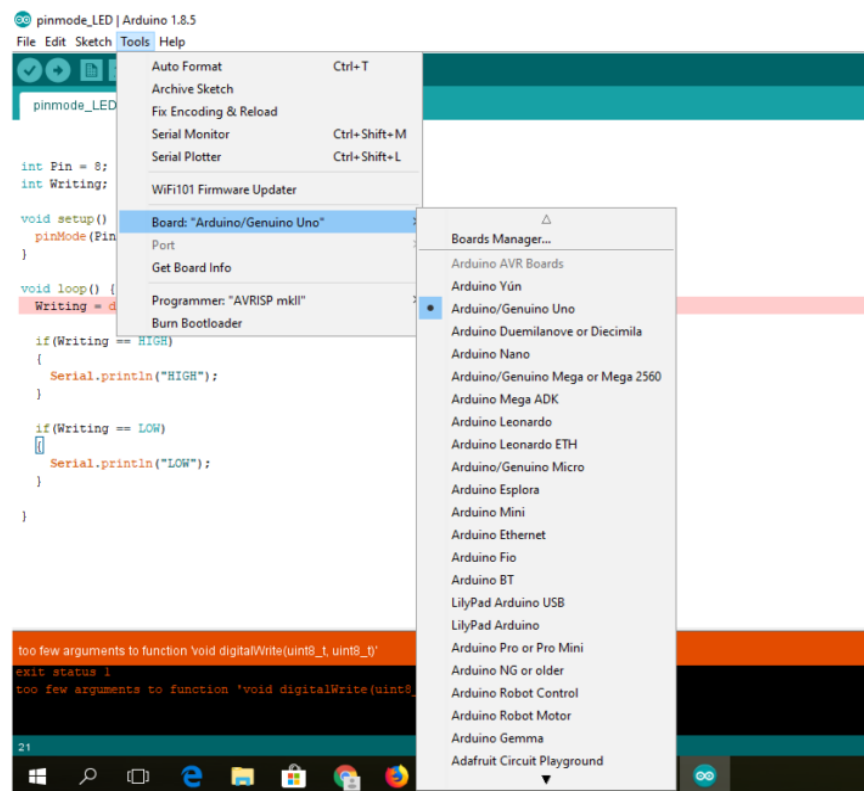

Figure 4.3 Board selection in Arduino IDE
- In order to upload the executable code, you must pick the pertinent board you are utilizing and the ports for that particular operating system. As you click on the Tools in the Menu bar, it will unlatch such as the figure 4.3 below